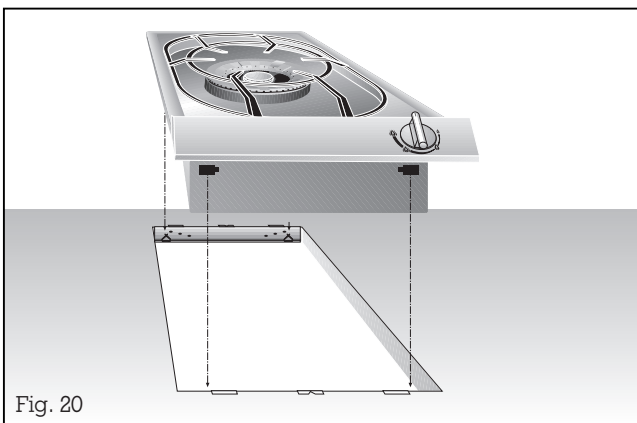

Fig. 20
– **Lower the appliance into the worktop.** Make sure that the engaging lugs on the appliance lie exactly on the clamping springs. Press the appliance firmly into the worktop. The engaging lugs on the appliance “snap” into the clamping springs (Fig. 20).